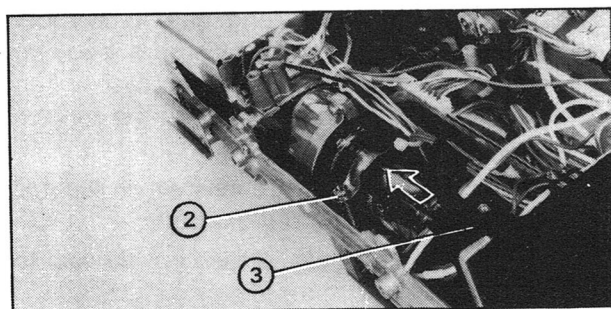

Fig 3.14 Removal of Vidicon
- (3) Loosen the screw ② of the band securing the vidicon socket assembly, shown in Figure 3.14, and using a pushing and turning motion, gently ease the vidicon forward. (DO NOT push the vidicon socket.) When moved forward sufficiently, remove the vidicon socket ③
- (4) Remove the vidicon through the front of the deflection yoke.